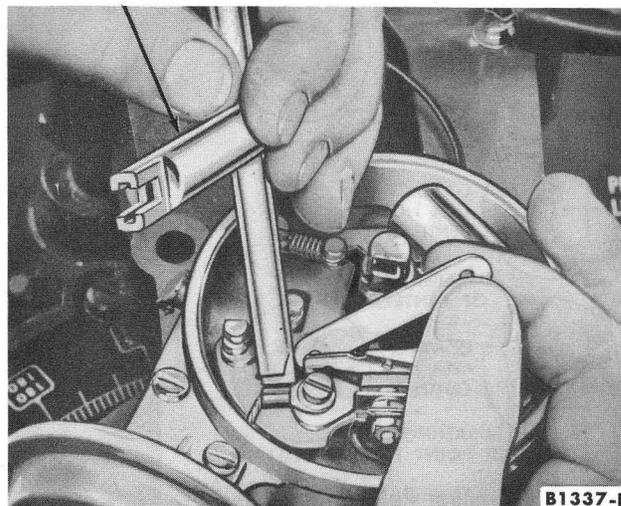

FIG. 10—Adjusting New Breaker Point Gap
2. Insert the correct blade of a clean feeler gauge between the breaker points (Fig. 10). The gap should be set to the larger opening (0.026 inch) because the rubbing block will wear down slightly while seating to the cam. If the fit is loose
or if there is binding, loosen the stationary point lock screw and adjust the gap (Fig. 10).